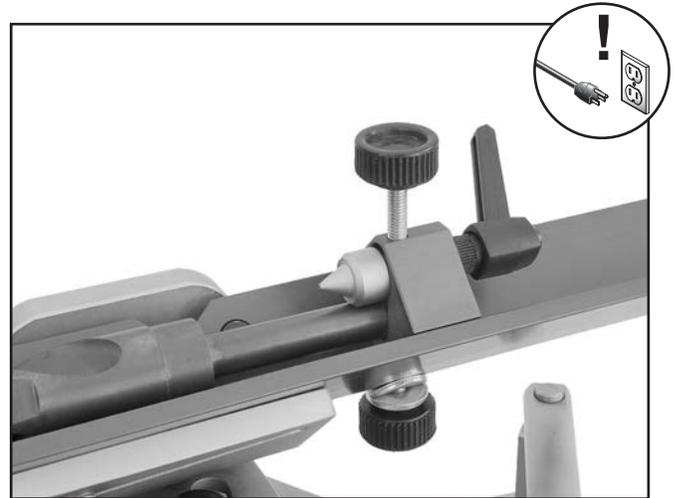

Figure 23. Tailstock in proper position against a bit shank that is not center-drilled.
- If the bit shank is not center-drilled: Raise the tailstock center point above the bit shank and lock it in place. Then, move the tailstock base up against the bit shank and tighten the bottom lock knob to hold it in place, as shown in **Figure 23**.